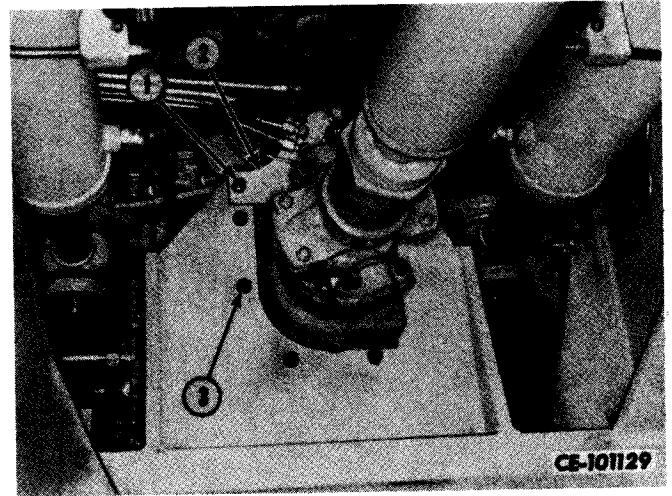

Figure 5-15
Remove cap screws and lock washers (1, Fig. 5-15) that hold hose support (2) in place. Remove cap screws and lock washers (3) that secure transfer drive to front frame. Remove transfer drive from rear side of frame crossmember to which it mounts.